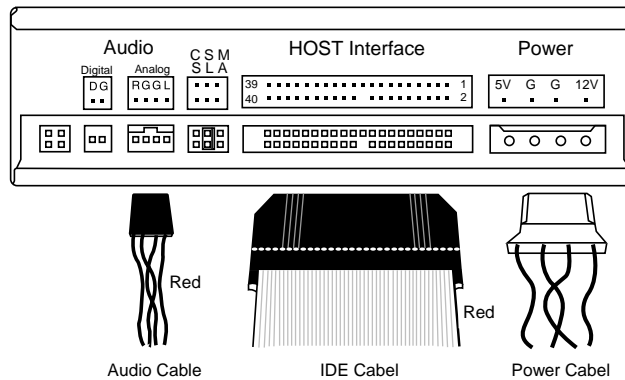

Figure 2-2 Back Panel Connections
**Note:** Figure 2-2 shows the back panel of PCA123CD. PCA103CD looks slightly different. It has four additional jumpers to the right of the Power connector and has only one audio (analog